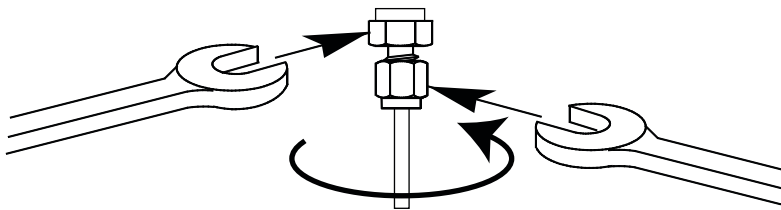

Figure 29 Final tightening
- 9** For 1/8-inch Swagelok fittings, use a pair of wrenches to tighten the fitting 3/4 of a turn (see Figure 29).